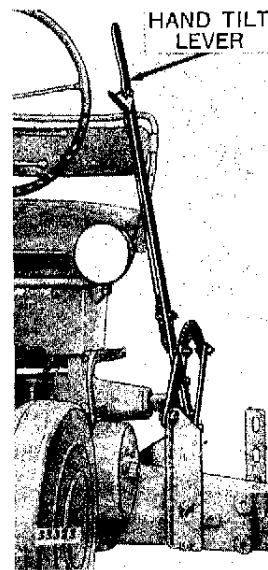

Figure 3
2. (Figure 3) Using the hand tilt lever, raise gatherer points so that gatherer hinge point (long bolt which secures gatherer point to hinge bracket) is 13 to 14 inches above ground. Set range of tilting lever for the convenience of operator by moving the lift linkage on the lift arm to a different hole.